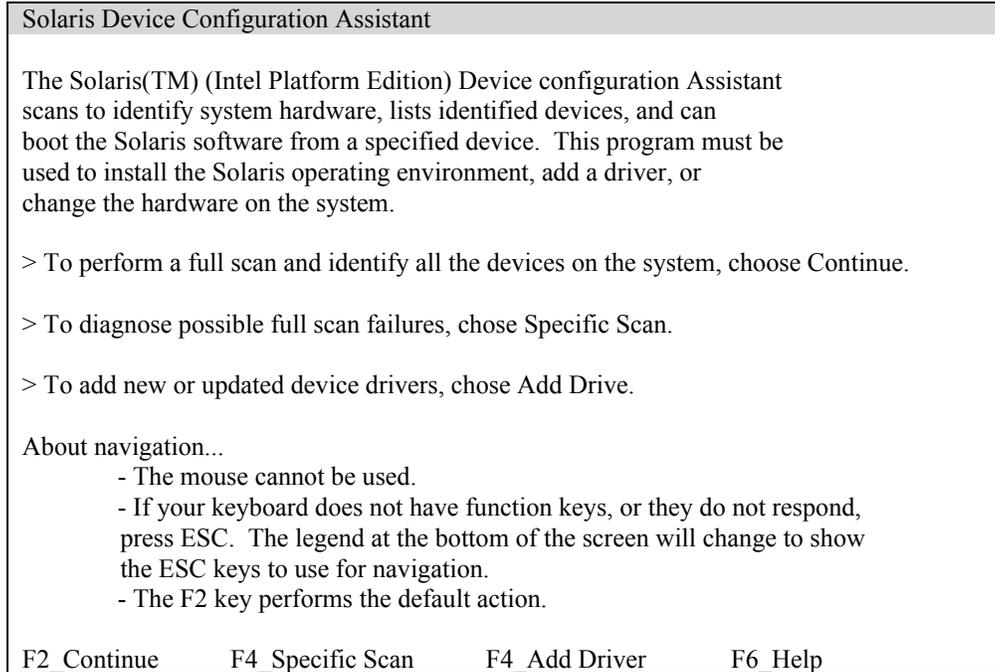

Figure 3-17 Solaris Device Configuration Assistant Screen
4. Next the “Solaris Device Configuration Assistant” (Figure 3-17) screen will be displayed.